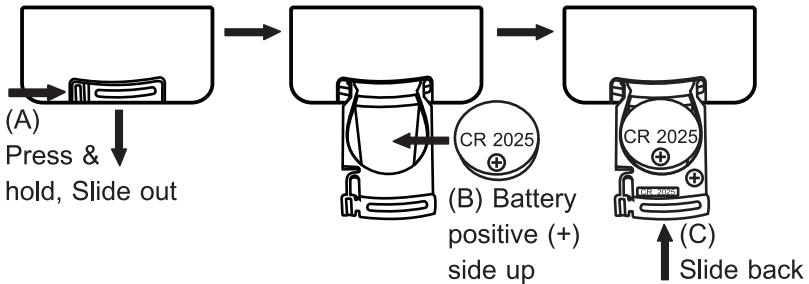

Fig. 29
4. Replacing USB Remote Battery, Fig. 29:
- (A) Press and hold the tenon on the bottom of the remote control and then slide out the battery tray.
- (B) Remove the old battery and insert the new battery in, making sure that the battery's positive (+) side is facing up.
- (C) Slide the battery tray back into the remote control until it clicks.
- (D) The remote control can function at distances of up to 5 meters. The remote control uses CR2025 lithium 3V coin battery.